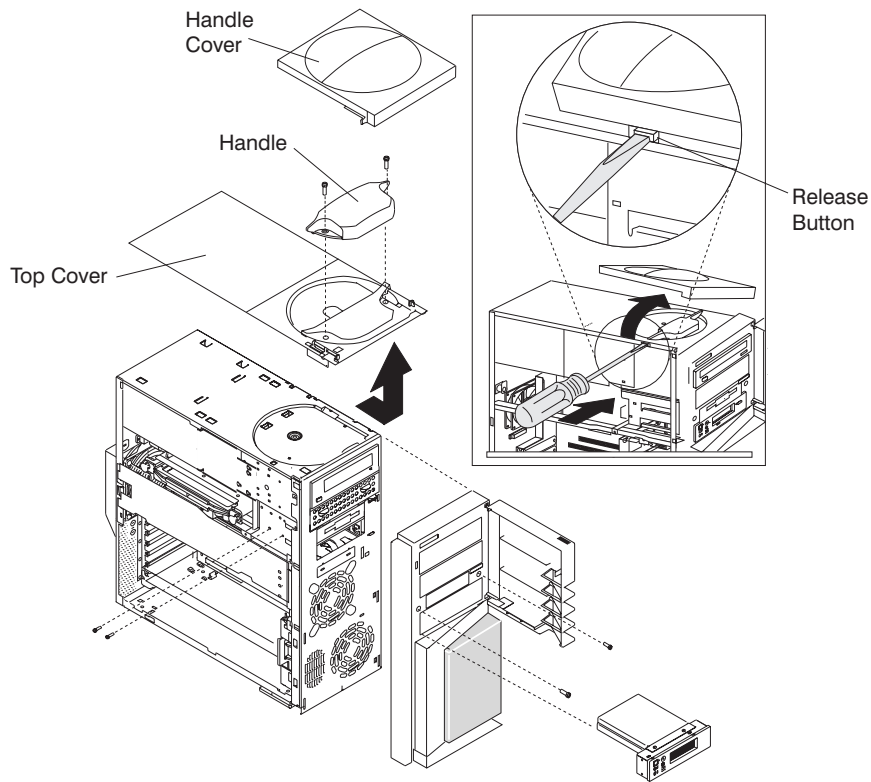

Figure 1.
1. Place the top cover on top of the system unit. See the illustration on page Figure 1.